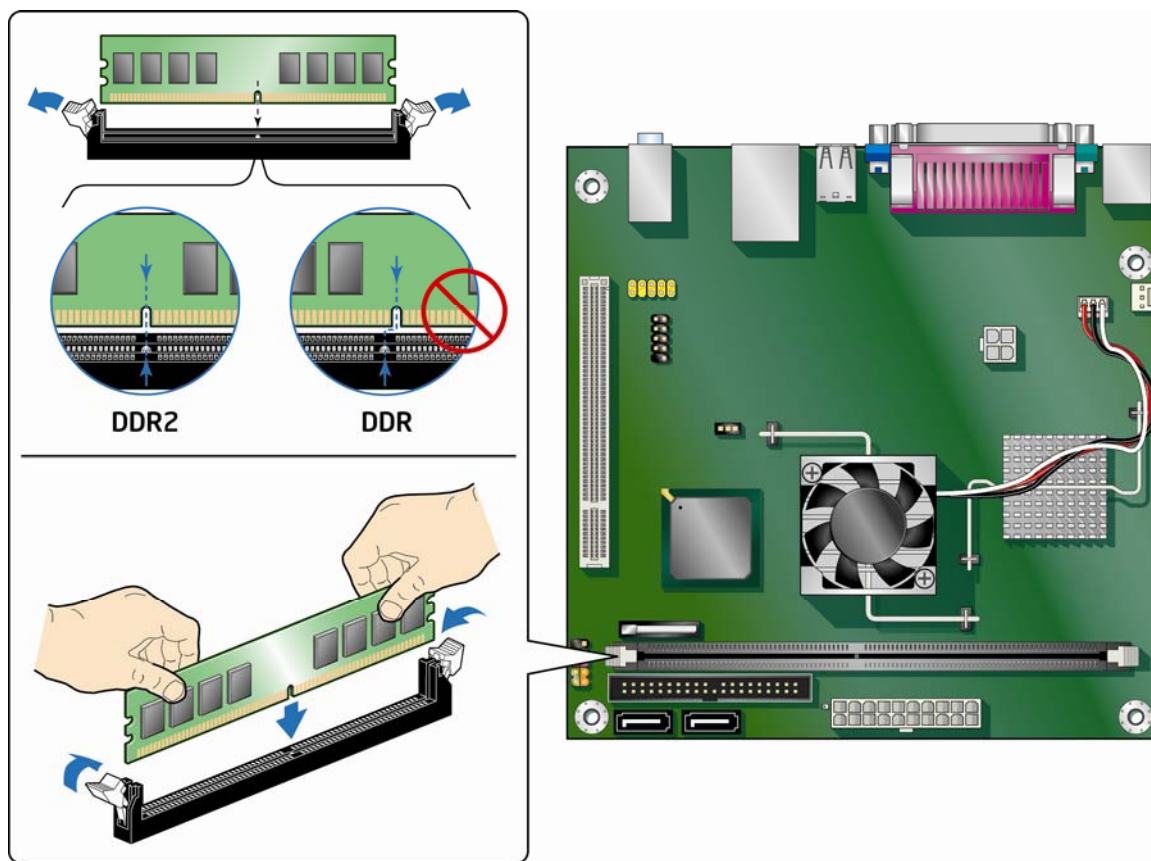

Figure 8. Installing a DIMM
3. Remove the computer's cover and locate the DIMM socket (see Figure 8).
6. Position the DIMM above the socket. Align the small notch at the bottom edge of the DIMM with the key in the socket (see Figure 8).